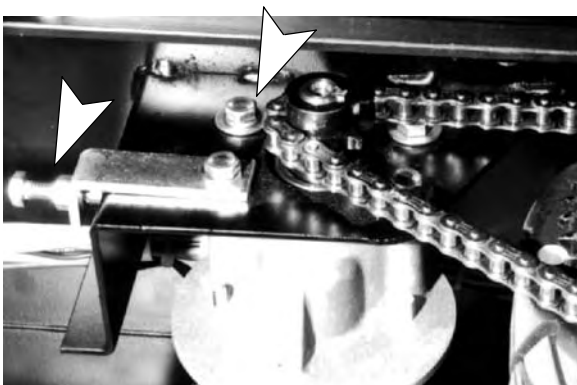

FIG. 32
3. Loosen locking nut on tension bolt (Figure 32).